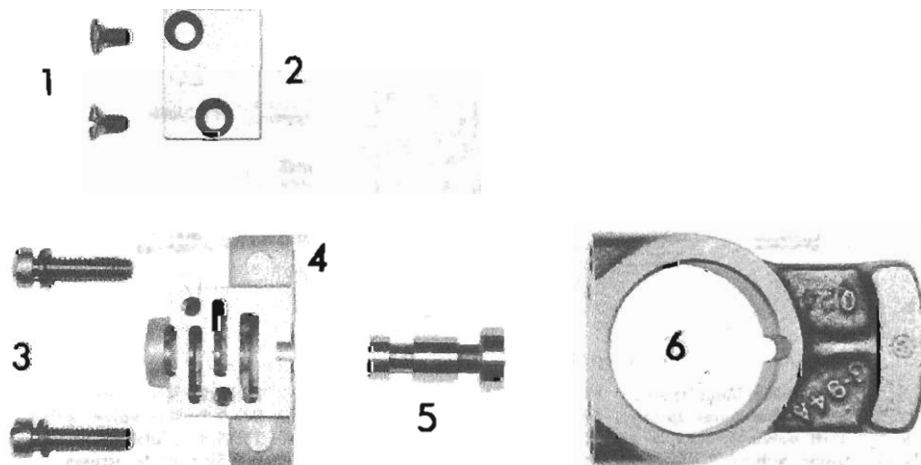

FIG. 20
Remove the two screws (3, Fig. 20) that attach the governor valve assembly to the governor counterweight (6). Remove the governor valve (5) from the governor valve body (4). Remove the governor valve plate retaining screws (1) and remove the plate (2).